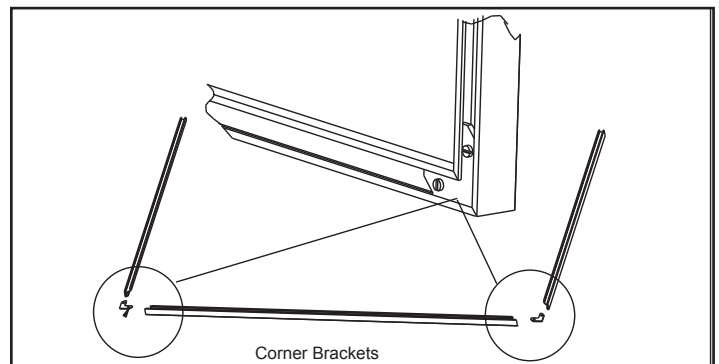

Figure 18.4
4. Using a standard flat screw driver tighten the corner brackets. **Figure 18.4.**